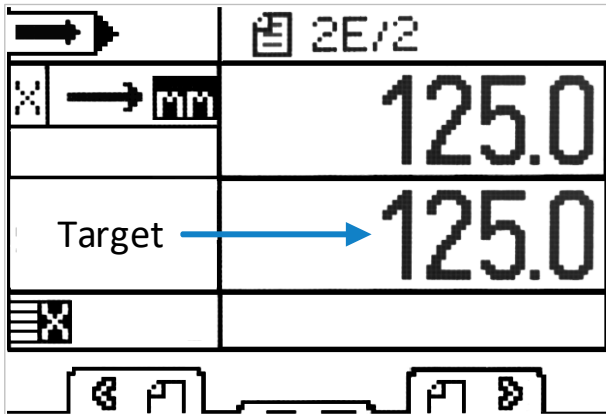

Figure 16: Set program end in program mode
- When the last program block to be executed in the program is reached (this does not have to be the last edited block), it **must be marked** as the **program end**. To do this, mark the field  with the cursor and then press the “F2” key → An E now appears behind the selected block (see ⇨ Figure 16).